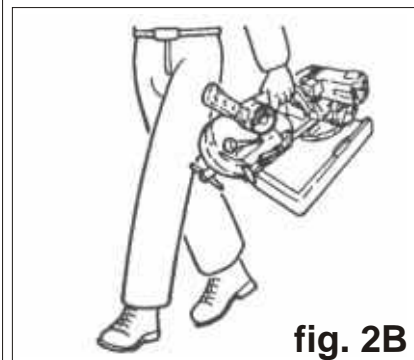

fig. 2B
- make sure it is properly fastened and grasp the center of the arm (fig. 2B), lifting carefully.